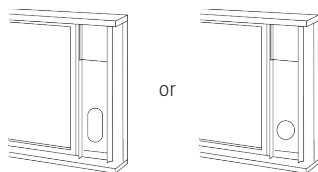

Fig. 14
4. Cut the self-adhesive foam rubber seal to a suitable length and fasten it to the edge of the window insert (fig. 14).